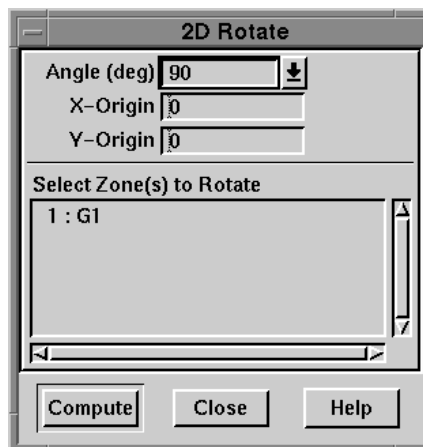

Figure 25-5. The 2D Rotate dialog.
1. From the Data menu, choose Alter, then choose 2D Rotate. The 2D Rotate dialog appears, as shown in Figure 25-5.